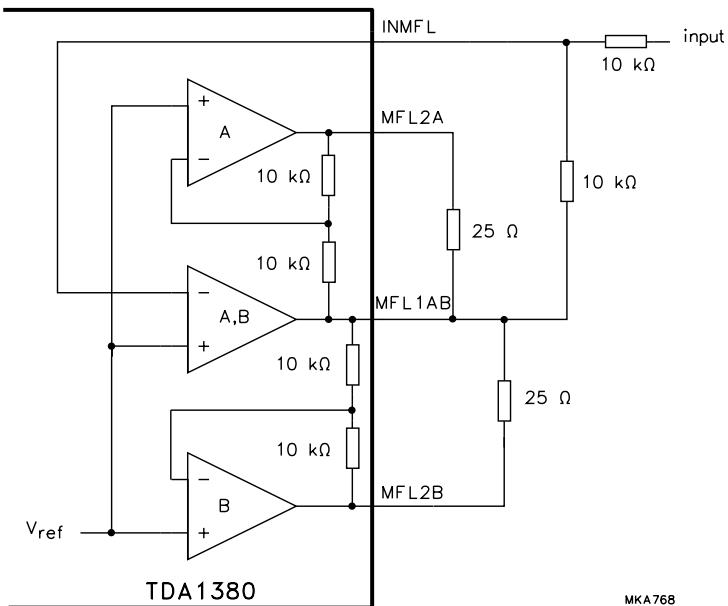

Fig.9 Principle of the feedback amplifiers and TEST circuit.
12. Closed loop, unity gain,  $R_L = 25 \Omega$ , in accordance with Fig.9.